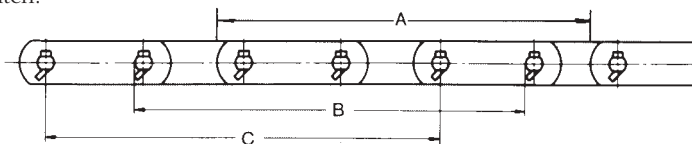

Figure 15-5: Places to Measure Chain Elongation
Figure 15-6 indicates the way to measure chain pitch. Using a steel tape measure, measure as many pitches as possible (at least four are required). Measure length (A), (B), or (C) as shown in Figure 15-5, depending on the wear condition of the chain. The chain pitch elongation per link is determined by comparing the actual pitch to the original chain pitch.